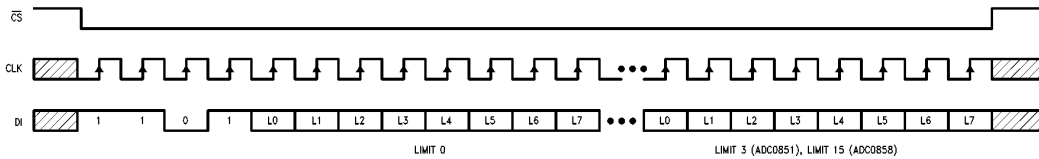

FIGURE 4. Timing Diagram for Write All Limits
Figure 4 shows the timing diagram. After \overline{CS} is brought low, the input word (DI) is clocked in starting at the first rising edge of CLK. The first four bits of D1 configure the device in the "write all limits" mode. Next, the limit data is serially clocked in. To complete the operation, \overline{CS} should be brought high after the data is loaded.